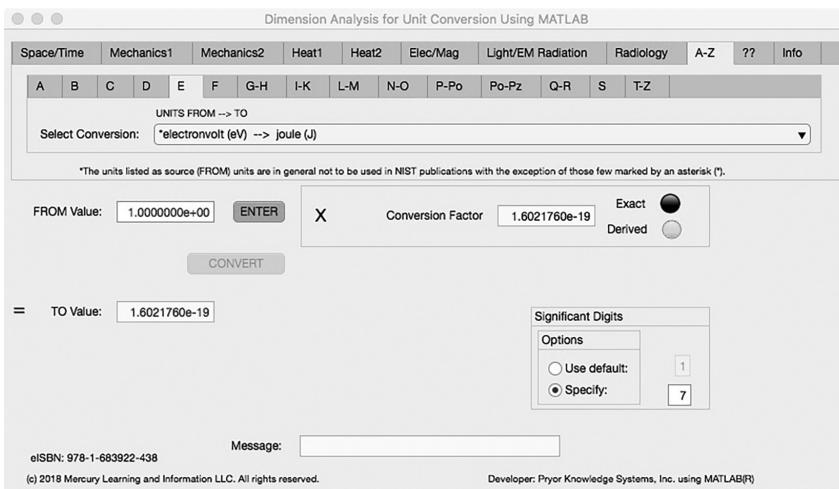

FIGURE 5.5-1 Unit Converter Using MATLAB App A-Z - E Tab.
The fifth Minor Tab under the A-Z Major Tab is the E Tab (see Figure 5.5-1). This example shows the conversion of electron volt (eV) to joule (J). In this example, the amplitude of electron volt (eV) is set equal to one (1.0). The conversion equation is shown in Example 5.5-1.